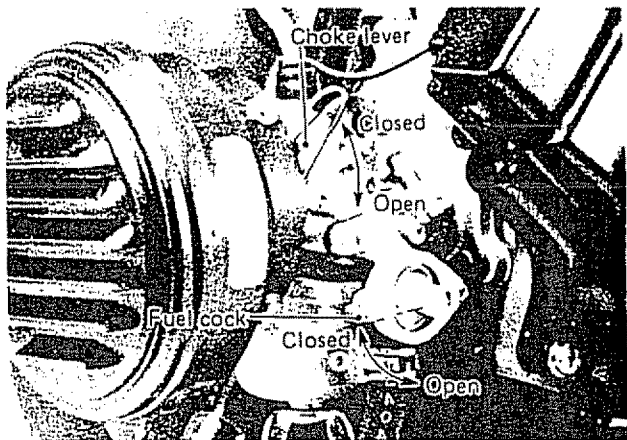

Figure 5
### V. STARTING THE ENGINE (Fig. 5 & 6)
1. Open fuel cock. (Fig. 5)
2. Close choke lever. (Fig. 5)